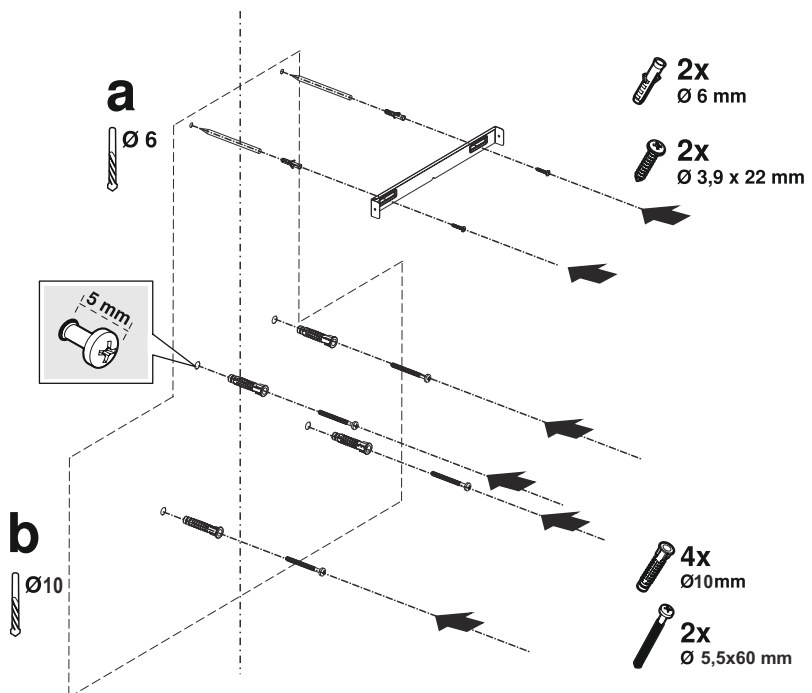

Fig. 13
1. ➤ Draw a center position line perpendicular to the wall from the ceiling to the lower edge of the hood (Fig. 13).
2. ➤ There is a notch in the center of the flue connection sheet. Place the center point of this notch on the chimney connection plate on the line you have drawn perpendicular to the wall. Align horizontally and mark the holes for mounting the flue connection sheet with a pencil (Fig. 13/a).
Drill the points you have marked with a Ø6mm drill and drive 2 Ø6mm plastic dowels into these holes (Fig. 13/a).
Fix the flue connection sheet to the wall with 3.9x22 screws (Fig. 13/a).
3. ➤ To drill the mounting holes for the hood, attach the mounting template to the surface on which the appliance is to be mounted and mark the mounting holes (Fig. 13/b).
4. ➤ Drill the hanger holes with Ø8mm drill and drive the dowels (Fig. 13/b).
Screw 2 4.8x50 hanger screws so that there is a 5 mm gap between the screw head and the wall (Fig. 13/b).